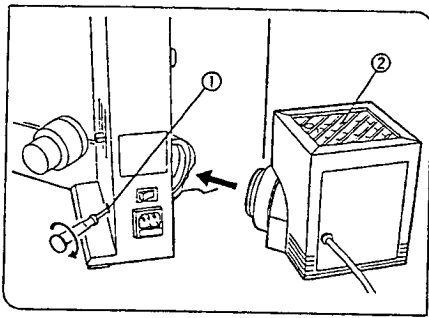

Fig. 11
(Figs. 11,12,13)
1. Using the Allen screwdriver, fully loosen the lamp housing clamping screw ① on the microscope.
2. Insert the lamp housing collector unit into the opening in the microscope frame until it touches the lamp housing mounting collar on the back of the base (lower part), then tighten the clamping screw ①. (Fig. 11)
⚠ Attach the lamp housing horizontally with the radiating fin ② upward and make sure to allow ample free space above, below and behind the lamp housing (Fig. 11)